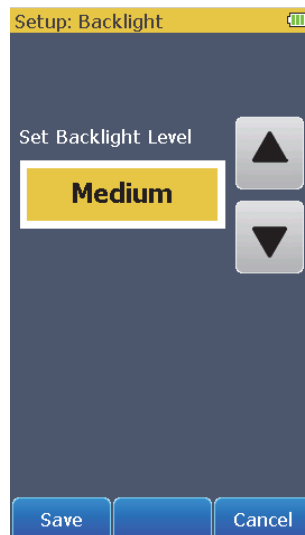

Figure 19. Backlight Screen
1. From the Setup screen, touch the **Backlight** control to show the screen in Figure 19 in the display.